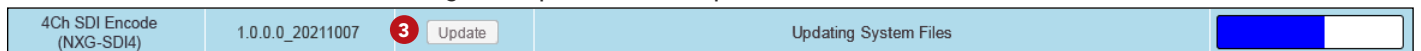

Figure 5c - Update In Progress
- 3 Update the Firmware version by clicking the **Update** button. The update status and progress will show under the **“Status”** columns. Below are the firmware updates as they appear while in-progress (Figure 5c) and upon completion (Figure 5d).